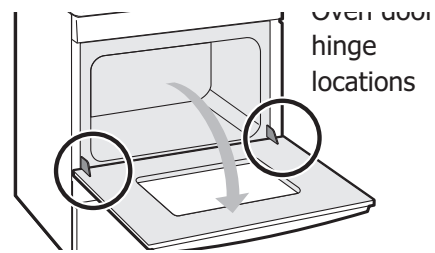

Figure 18: Door hinge location
1. Open oven door completely, horizontal with floor (See Figure 18).
3. Fully open the oven door, horizontal with floor (See Figure 18).